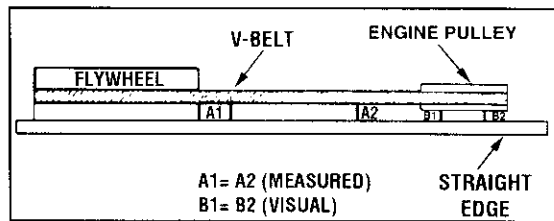

Fig. 11
3. Place a straightedge against the outside of the flywheel and the engine drive pulley. Refer to Figure 11 as required.
4. Measure the distance between the edge of the belt and the straightedge at points A1 and A2 in Figure 11. The difference between measurements should be no more than 1/16".